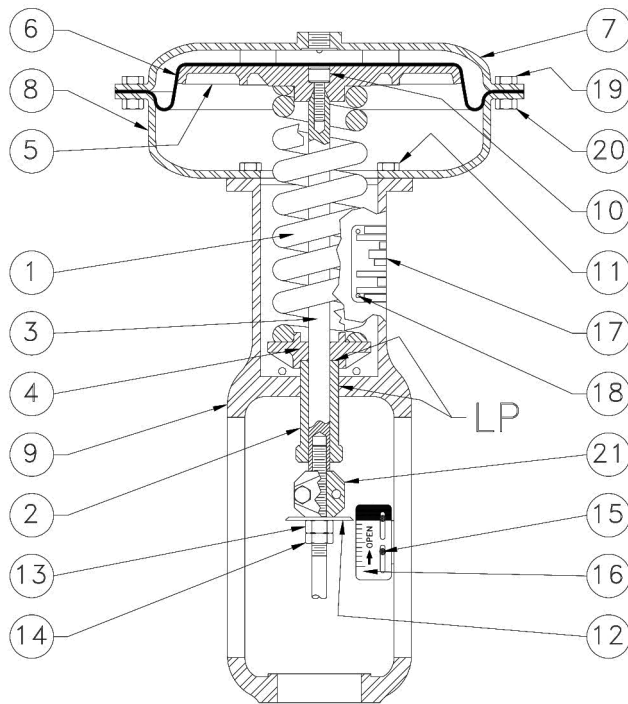

Figure 3: 657M Actuator Assembly Drawing
Consult Figure 3, and proceed as follows for disassembly:
2. Apply lubricant to the threads and spring seat bearing surface of the spring adjuster (See location marked “LP” on Figure 3).
5. If the stem locknuts were removed during disassembly, install them onto the valve plug stem and place the travel indicator (key 12) with the cupped side downward.
The following parts list includes complete part numbers for components of the 657M Actuator that are generally replaceable in the field, and are most commonly used. Key numbers correspond to those in Figure 3. If materials and parts are required, but are not outlined in this literature, consult your Jordan Valve representative. Include the serial number of your actuator in all correspondence regarding replacement parts.